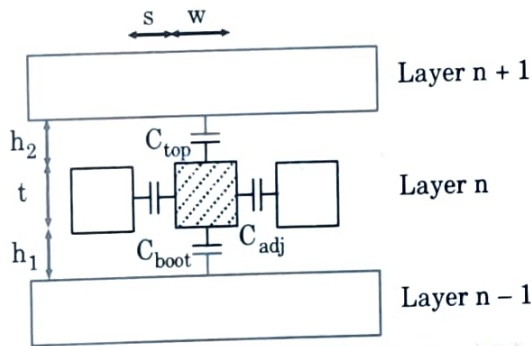

Fig. 2.2.3. Multi layer capacitance model.
- A cross-section of the model used for capacitance upper bound calculations is shown in Fig. 2.2.3.